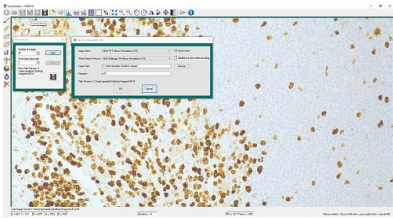

Figure 1: A timed series of 10 images taken at 1 second intervals is saved as a multipage TIFF.
The Timed Series control, shown in Figure 1, allows time-lapse images to be recorded. Simply set the total number of images and the time delay in between captures. The output will be saved in a multi-page TIFF file in order to preserve the high-precision, unaltered image data. Controls within ThorCam allow the user to play the sequence of images or step through them frame by frame.
Our scientific cameras have three externally triggered operating modes: streaming overlapped exposure, asynchronous triggered acquisition, and bulb exposure driven by an externally generated trigger pulse. The trigger modes operate independently of the readout (e.g., 20 or 40 MHz; binning) settings as well as gain and offset. Figures 1 through 3 show the timing diagrams for these trigger modes, assuming an active low external TTL trigger.
Figure 1: Streaming overlapped exposure mode. When the external trigger goes low, the exposure begins, and continues for the software-selected exposure time, followed by the readout. This sequence then repeats at the set time interval. Subsequent external triggers are ignored until the camera operation is halted.
- **"Frames per Trigger" (Blue Highlight) Set to Zero or >1**: The camera will operate in streaming overlapped exposure mode (Figure 1).
Figure 1: Plot of dark shot noise and read noise as a function of exposure for three sensor temperatures for our 1.4 megapixel cameras. This plot uses logarithmic scales for both axes. The dotted vertical line at 5 s indicates the values calculated as the example in the text.
Figure 1, which is a plot of the dark shot noise as a function of exposure for the three temperatures listed in Table 1, illustrates how the dark shot noise increases with increasing exposure. Figure 1 also includes a plot of the upper limit of the read noise.